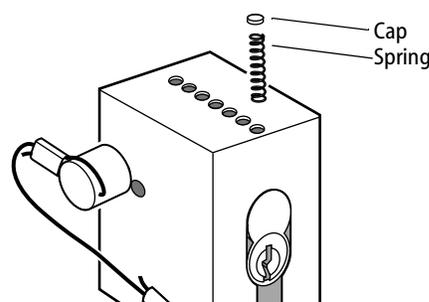

Figure 4 — Placing springs and caps into a combined core
- 1 Starting at the front open hole of the capping block, insert springs into each hole. Put as many springs as there are pins, for example, for a 6-pin core, put six springs into the first six holes. See Figure 4.
- 4 Slide a cap onto each open hole that holds a spring. See Figure 4.